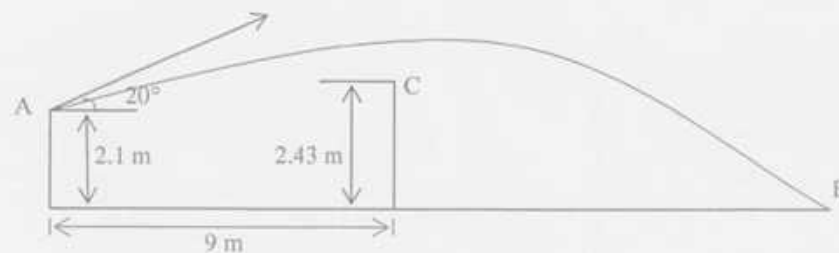

Figure 8
9. A 2.1 m tall volleyball player serves the ball with an initial velocity v_0 of magnitude 13.40 m/s at an angle 20° with the horizontal as shown in Figure 8. Determine (a) if the ball will clear the top of 2.43 m net, (b) how far from the net the ball will land at B?